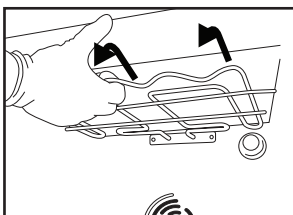
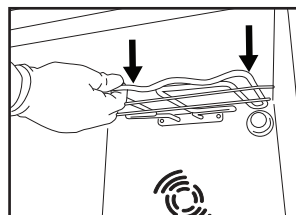

Fig. 1
Fig. 2
2. Pull the heating element out a little (*Fig. 1*) and lower it (*Fig. 2*).